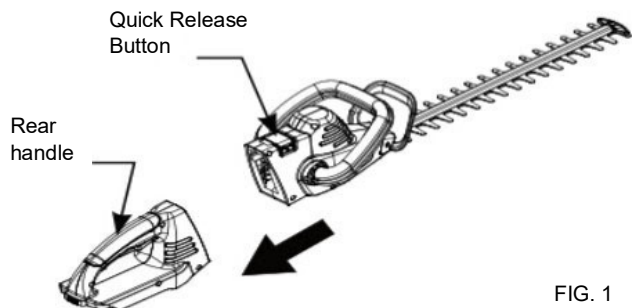

FIG. 1
1. Lift the quick release button. Pull to remove the handle from the cutting head. (Fig. 1)